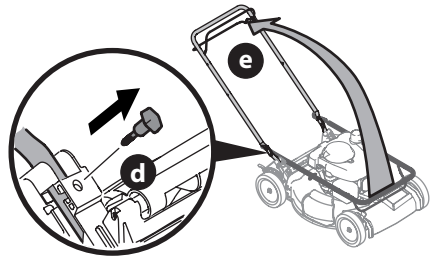

Figure 2
2. Remove T-bolts (d) from the handle brackets (Figure 2).
3. While stabilizing mower so it doesn't move, pivot upper handle (e) up (Figure 2). Do not crimp blade or drive control cables while lifting the handle up.